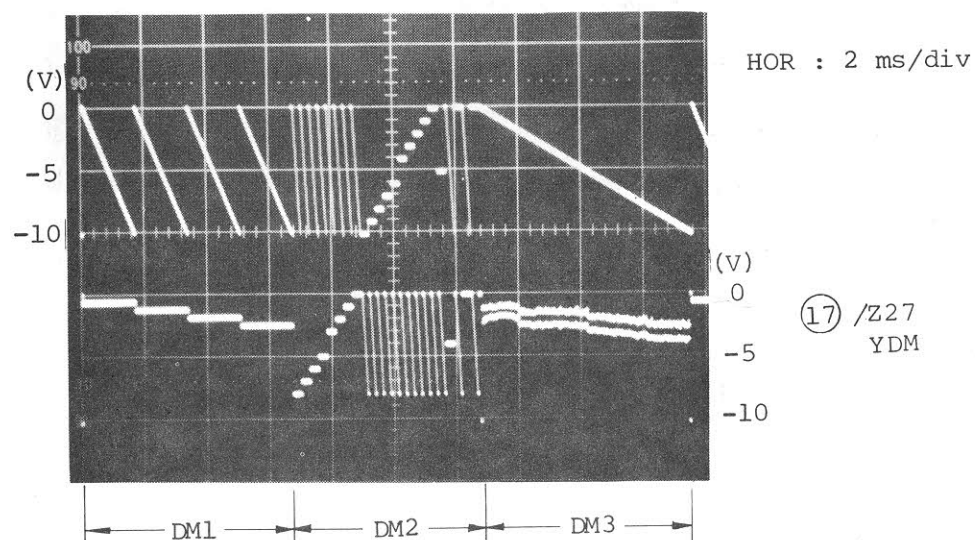

Fig. 5-80 X, Y D/A Output
9.	Check that output XDA ⑯ of X-D/A and output YDA ⑰ of Y-D/A are as shown in Fig. 5-80.